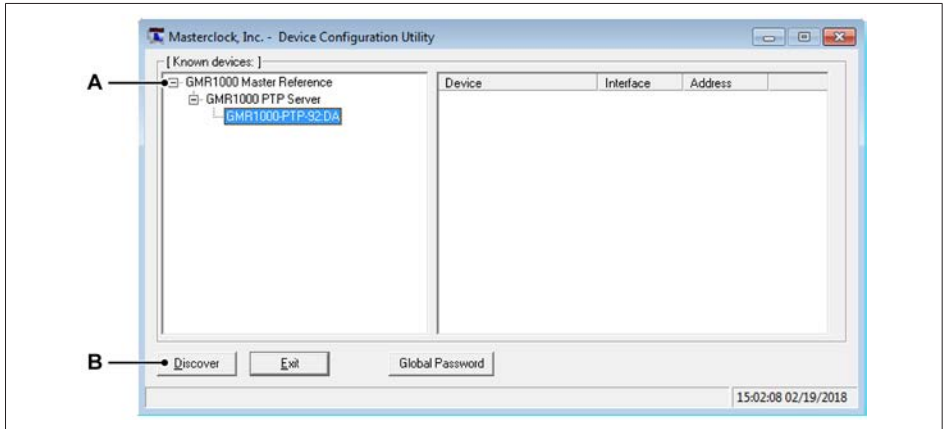

Fig. D.18 Device Configuration Utility tool - Detected devices
1. Start the WinDiscovery tool from Masterclock®, this will show the devices on the network (see Fig. D.18).